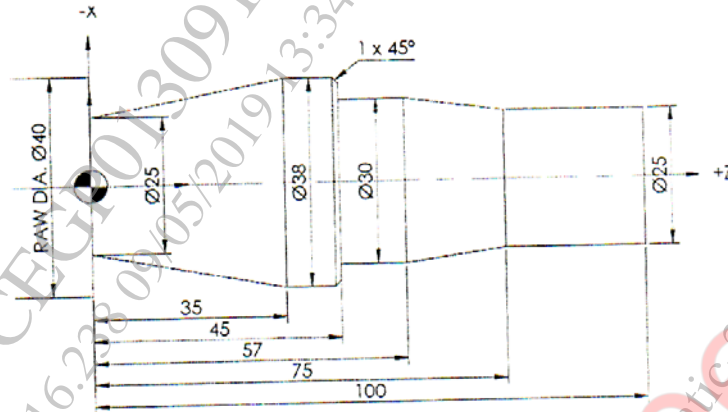

Fig. 2
- b) Write CNC program using G and M codes to turn the component shown in fig. 2 having Stock size is $\varnothing 40$ mm. Use canned cycles wherever applicable. Assume suitable data for speed and feed. [10]